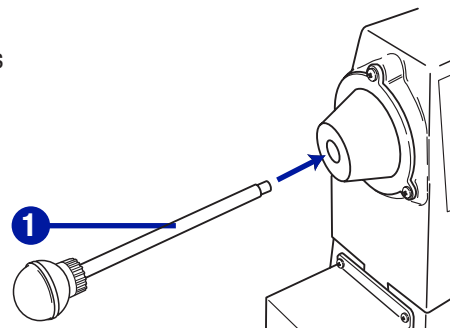

Fig. 7
**REMOVING SPUR OR CENTRE (Fig. 7)**
- Insert the push-out rod (1) into the far end of the headstock spindle or the tailstock spindle until it comes into contact with the shaft of the spur or centre.
- Tap the end of the push-out rod (1) until the spur or centre comes loose.